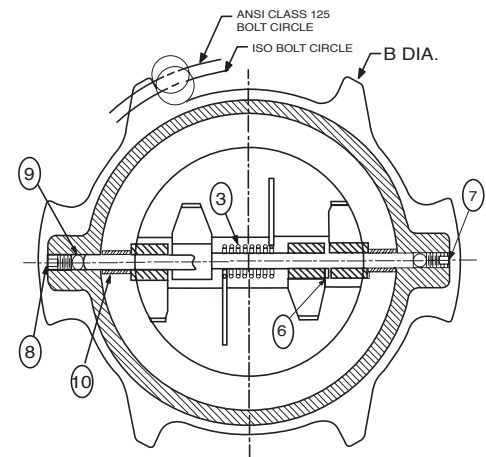

Figure 2 Integrally-Cast Locating Wings
**CAUTION:** The flow arrow on the valve body must point in the direction of flow when the system is in operation. The valve can be installed in horizontal lines with the disc hinge pin in the vertical position, or in vertical lines with flow up. Valves for air service (Series 582A require special springs to allow full valve opening. Install valve between standard flanges that correspond to the dimensions given in ANSI B16.1 for 125# flanges or to those given in ISO 7005 for PN10 and PN16 flanges. (See Table 1) Note: Integrally-cast locating wings around the exterior, enable the valves to mount between these different bolt patterns. (See Figure 2) The number of wings are not provided because the desired universal fit is accomplished without them.